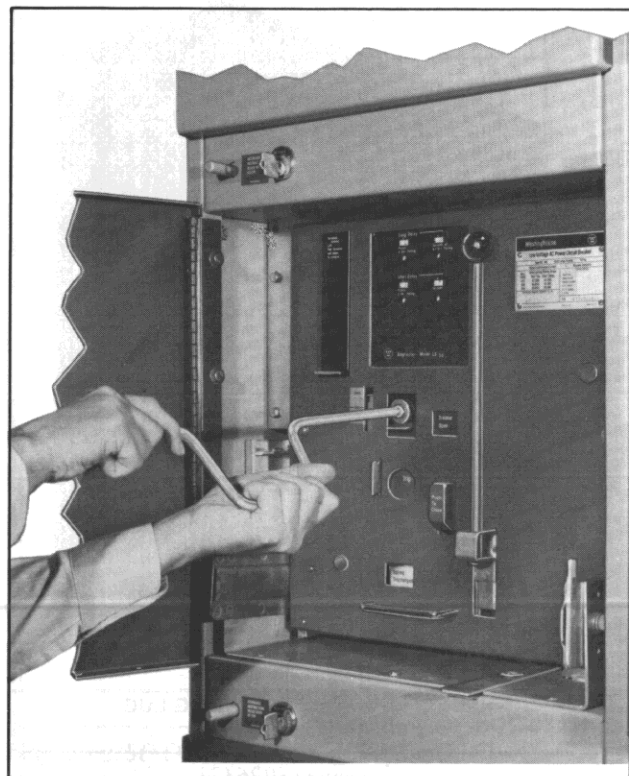

Fig. 22 *Using Levering-In Crank (391177)*
1.2.1 A levering-in crank for moving a breaker anywhere between the REMOVE and CONNECTED positions; this crank is used for turning the levering-in nut which is a part of the breaker. See Fig. 22.